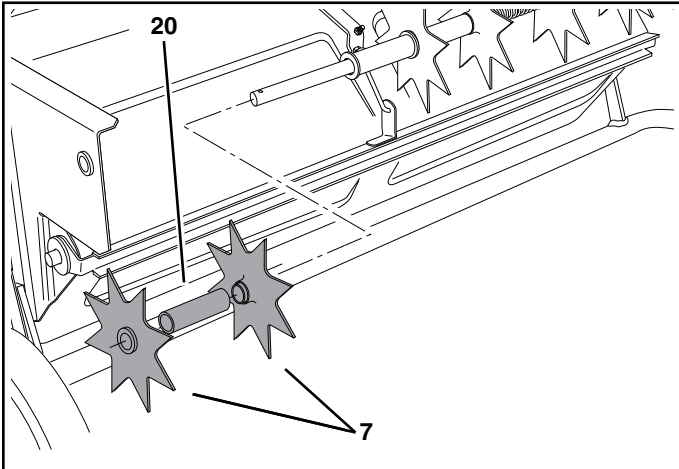

FIGURE 20
- Place two spike disks (7), separated by a long spacer tube (20), onto the shaft. Fit the long spacer tube onto the ends of the flanged bearings in the disks. See figure 20.